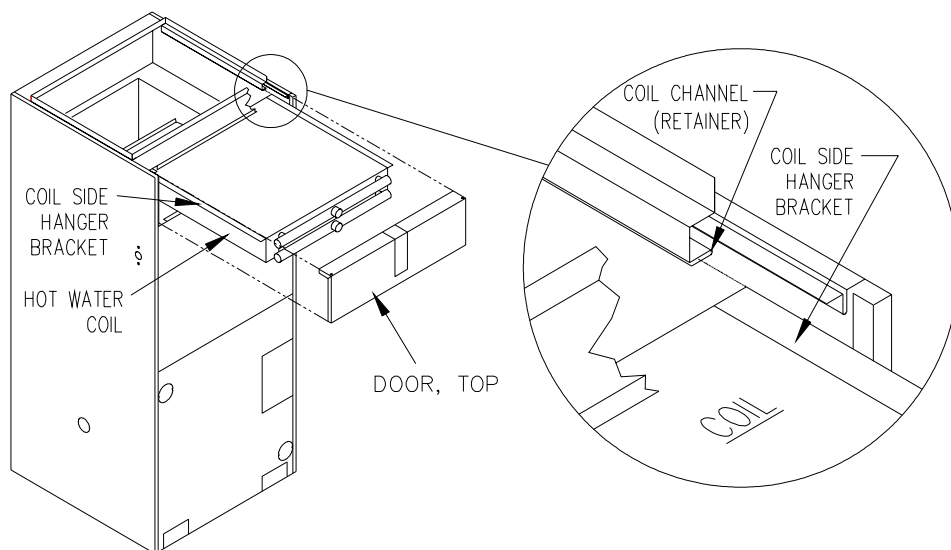

Figure B4
2. Slide hot water coil's side hanger brackets into coil channel(retaining channel) in the air handler. See Figure B4 inset.